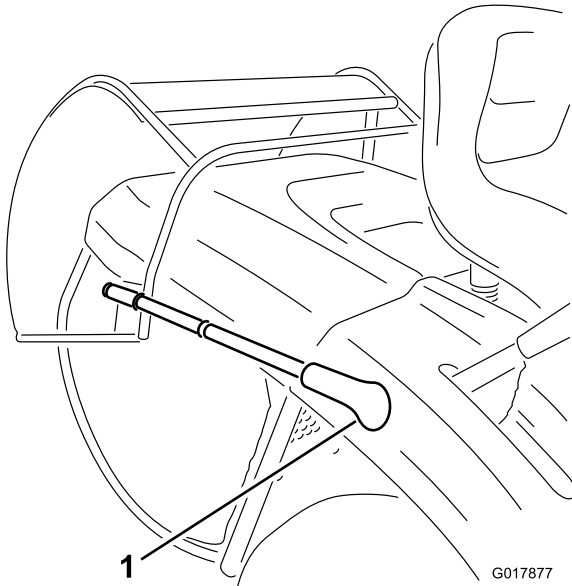

Figure 16
3. Pull the grass collector dump lever forward and tilt the grass collector (Figure 16).